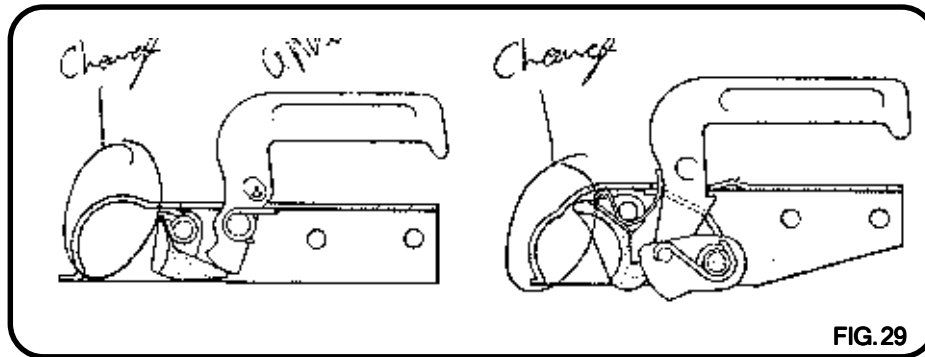

FIG. 29
**2.6 Examine and Lubricate the Coupling Head. (Fig. 29)**